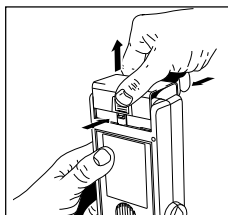

Fig. 17
- Open the battery flap (see Fig. 17).